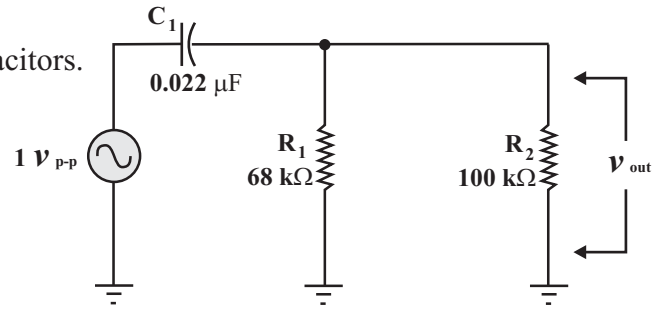

Figure 1
Calculate f_c , $0.1f_c$ & $10f_c$ for Figure 1 and Figure 2.
- 1) Construct the circuit shown in Figure 1.